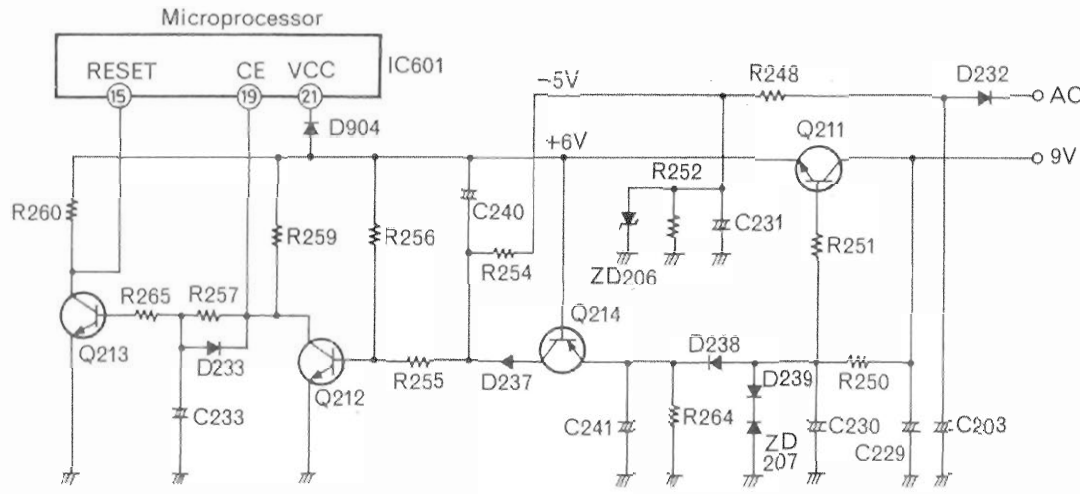

Fig. 1
Terminal ①⑨ (CE) of IC601 shown in Fig. 1 is the back-up input terminal; when this terminal is set to Lo level, the unit enters the back-up mode. Terminal ①⑤ (RESET) is the reset input terminal; when the power is turned on, the back-up mode is released, this terminal changes to Lo from Hi and the START program instruction is given.